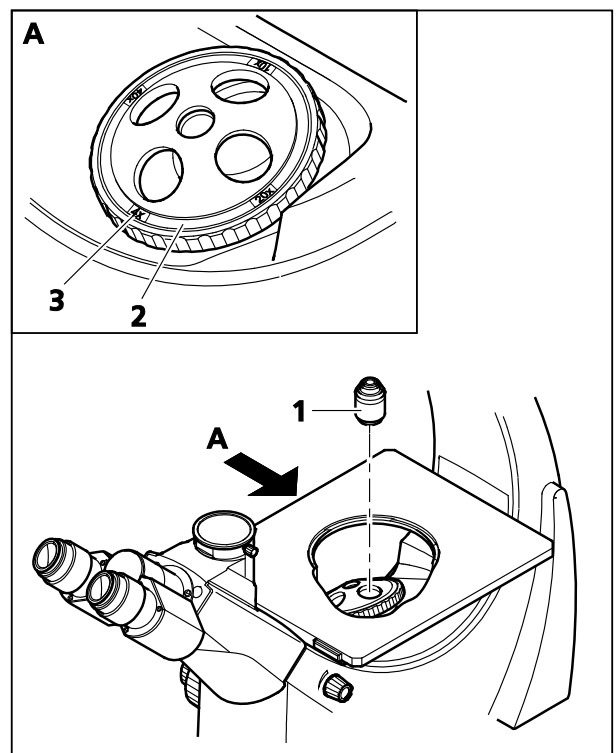

Fig. 3 Screwing in the objectives
- Remove the dust caps from the location holes of the nosepiece (Fig. 3/2).
- Screw the objectives (Fig. 3/1) in ascending order into the location holes until the stop is reached.
- Affix the supplied stickers (Fig. 3/3) indicating the objective magnification, to the corresponding positions of the nosepiece.
Affix the stickers so that you can read from the left side (Fig. 3/3) the magnification of the objective just positioned in the light path.